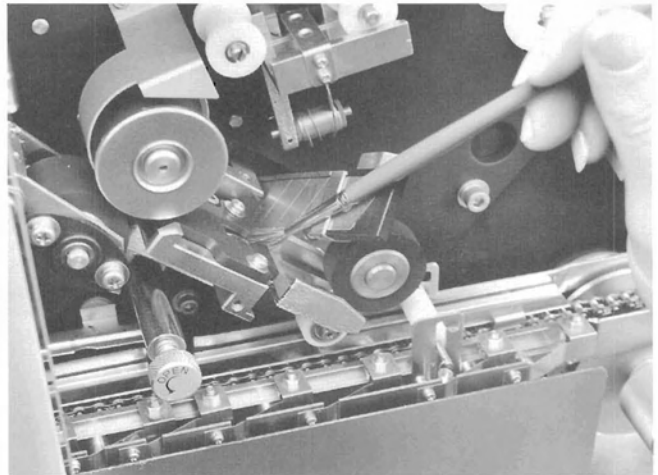

Figure 6-6
3. While the tray is removed, remove any resin dust from the rollers and blade assembly by carefully brushing with a small soft brush (such as an artist's brush) (Figure 6-6). If resin dust has accumulated and cannot be brushed away, moisten the brush with xylene and repeat. Unthread the film so the plate to the left of the blade assembly can also be cleaned. Be sure the rollers are dry before reloading the film.